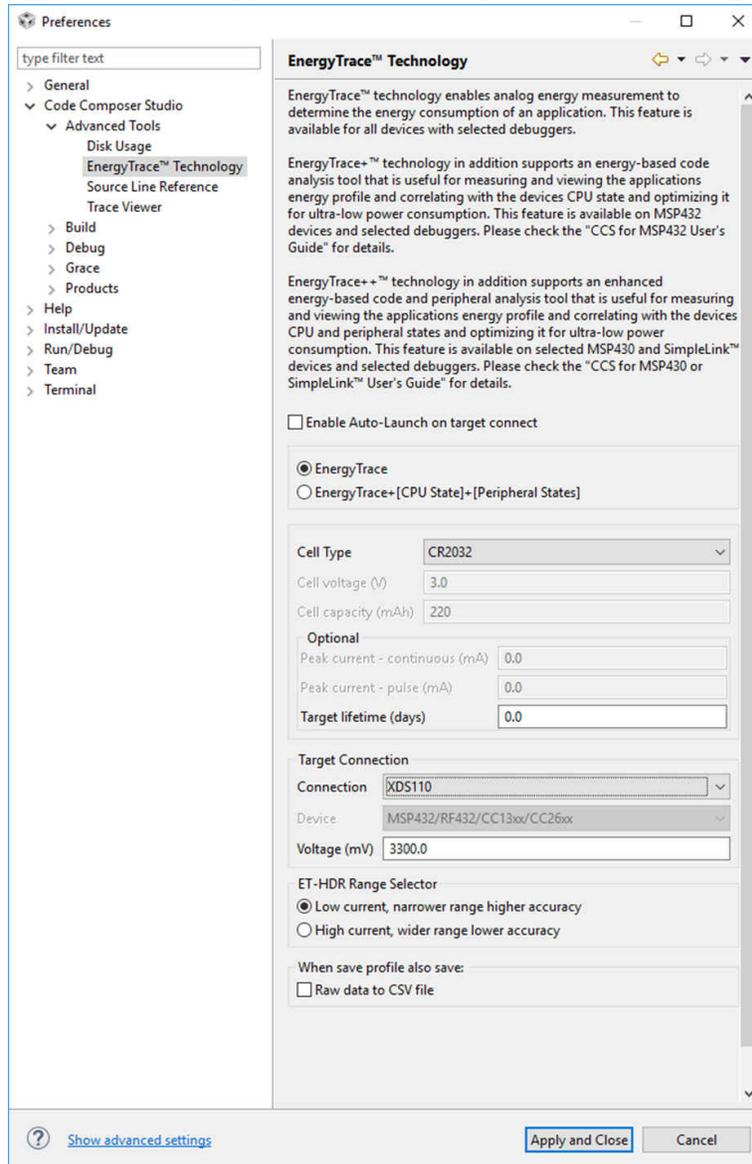

Figure 7-4. EnergyTrace Technology Configuration
4. Navigate to the 'EnergyTrace Technology' window and configure it as shown in Figure 7-4.